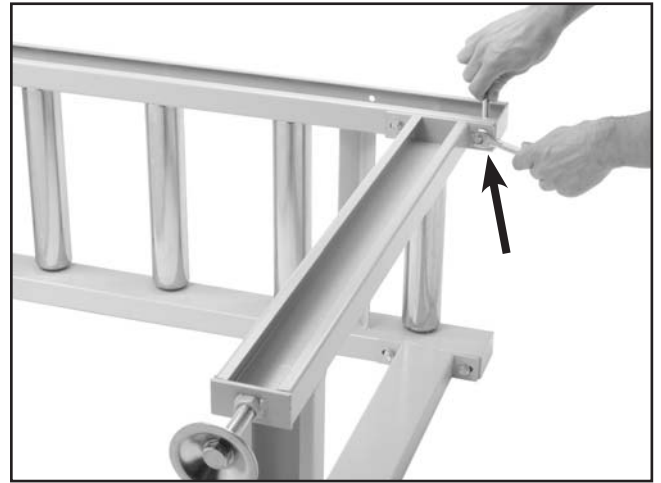

Figure 11. Attaching stand leg/foot assembly to roller table.
- Using four of the hex bolts, 8mm x 18 OD flat washers, and hex nuts, attach the table leg/foot assembly to the left roller table assembly, as shown in **Figure 11**. (The left roller table has a rail along the edge.)